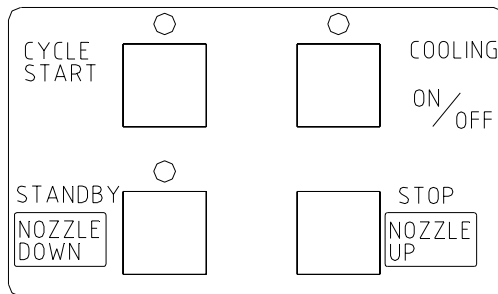

Figure 10: Operations Panel
3-3 Component Reflow - Please refer to Figure 10
- 4) Push the NOZZLE DOWN button. The nozzle will go down and stop automatically 16 mm (will vary with PCB thickness) above the PCB. See Figure 10.